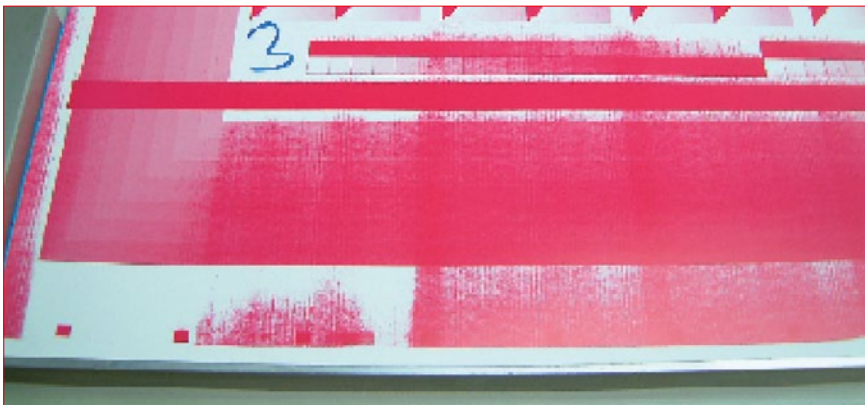

Fig. 3 (top) and Fig 4 (bottom): The printed sheet (top) clearly shows the impact of the defective rollers in the inking unit.
- chalk coating on rollers and unclean inking units (fig. 3 and fig. 4)